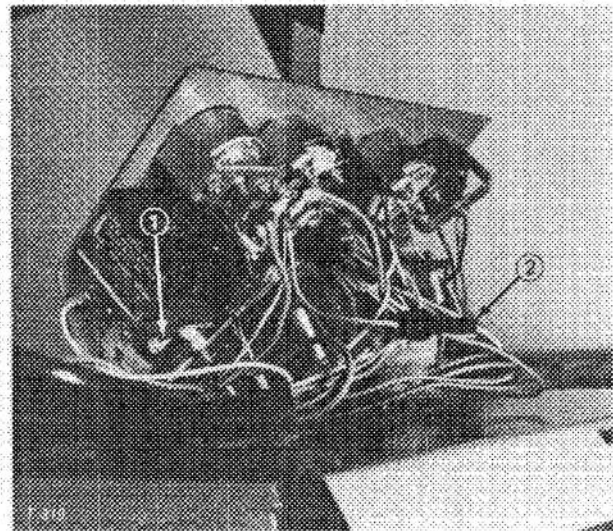

Figure 22
**Electrical System Fuses (Fig. 22)** — An engine temperature reset relay fuse — SFE 14 amp — is located at the rear of the reset relay. An inline fuse — AGC 10 amp — is also incorporated to protect the engine control module. Access to the fuses can be gained by removing the instrument panel cover.